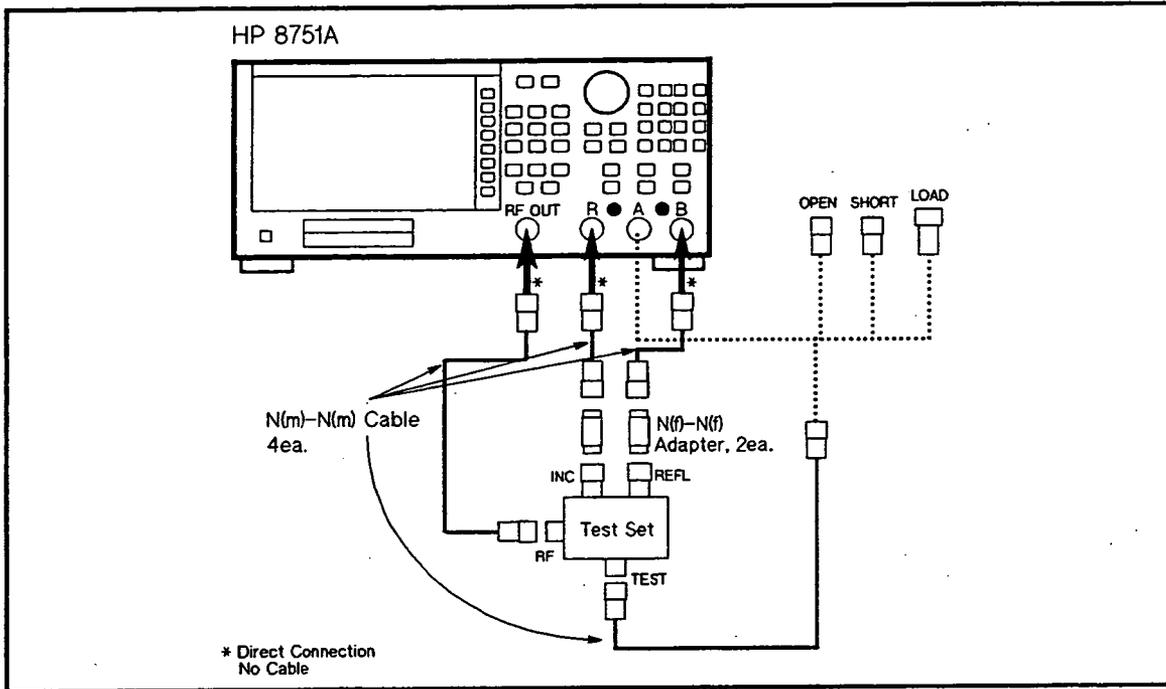

Figure 1-5. Input A Impedance Setup
- a. Connect the equipment as shown in Figure 1-5.